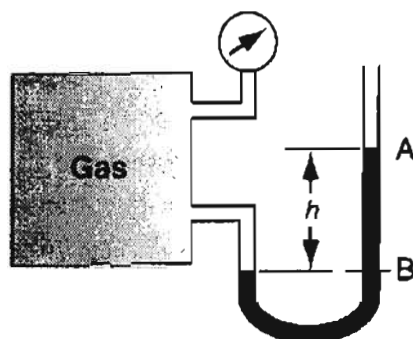

Figure SAT5.3P2
2. A Bourdon gauge and a mercury manometer are connected to a tank of gas, as shown in Figure SAT5.3P2. If the reading on the pressure gauge is 85 kPa, what is h in centimeters of Hg?